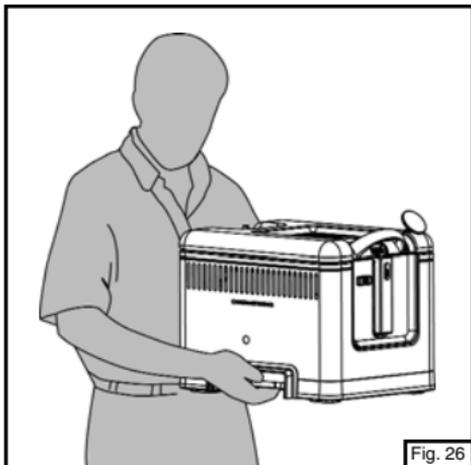

Fig. 26
- To carry the fryer, firmly grasp the fryer by the base (Fig. 26).